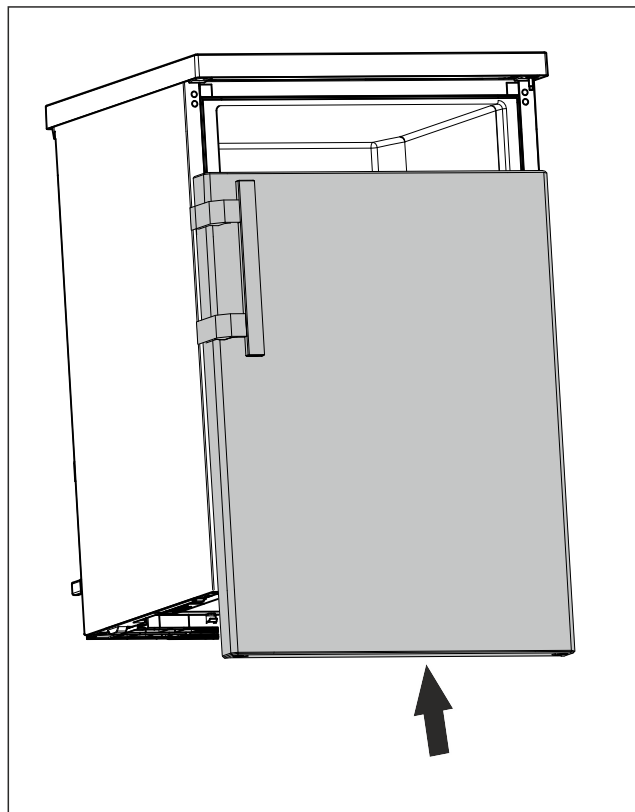

Fig. 24
- ▶ Slide the door onto the upper bolt in closed status. (see Fig. 24)